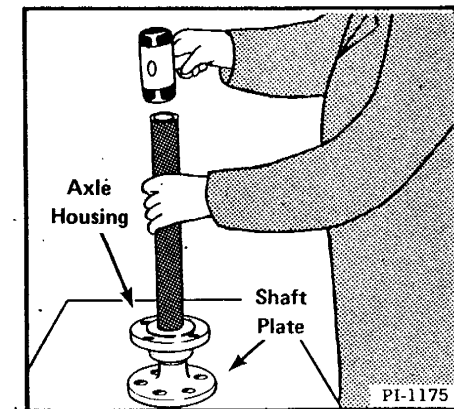

Fig. 4-36 Driving Hub and Bearing
(4) Use a driver to force the axle housing and bearing assembly onto the shaft, or use a hydraulic press with a driver (Fig. 4-36).
(5) Put the spacer sleeve on the axle.